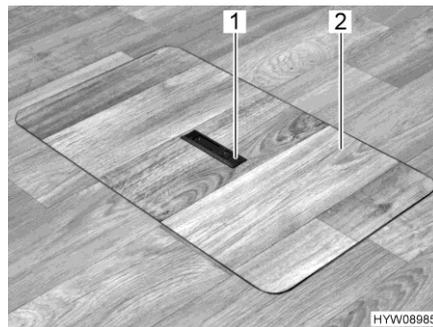
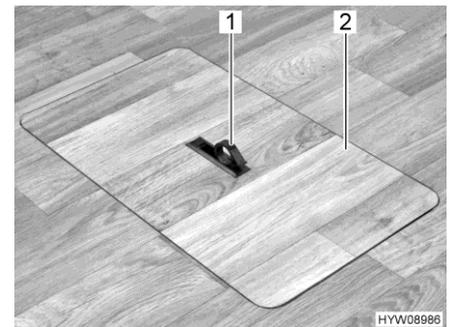

Fig. 76 Floor storage compartment cover (handle recessed)
Fig. 77 Floor storage compartment cover (handle swung out)
- Push one side of the grip plate (Fig. 76,1) downwards. The handle (Fig. 77,1) swivels upwards.
- Remove the cover (Fig. 77,2) upwards.
- Insert the cover (Fig. 77,2) in the frame on the floor.